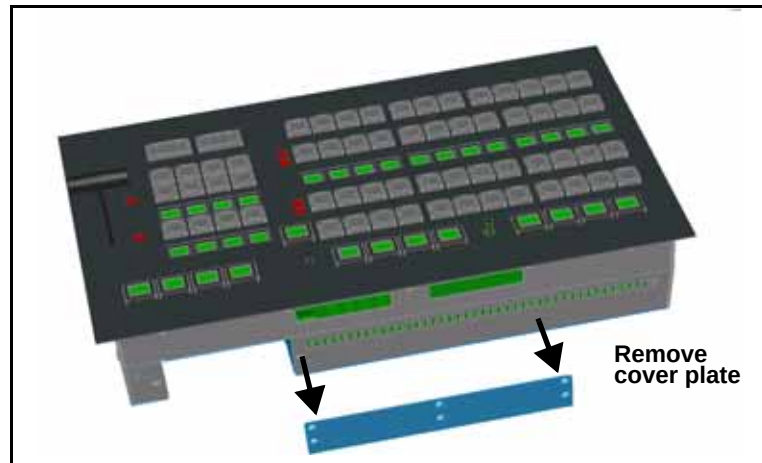

Figure 2-4. Removal of the Main Control Panel Cover Plate
3. Remove the cover plate from the back of the main control panel (see Figure 2-4).